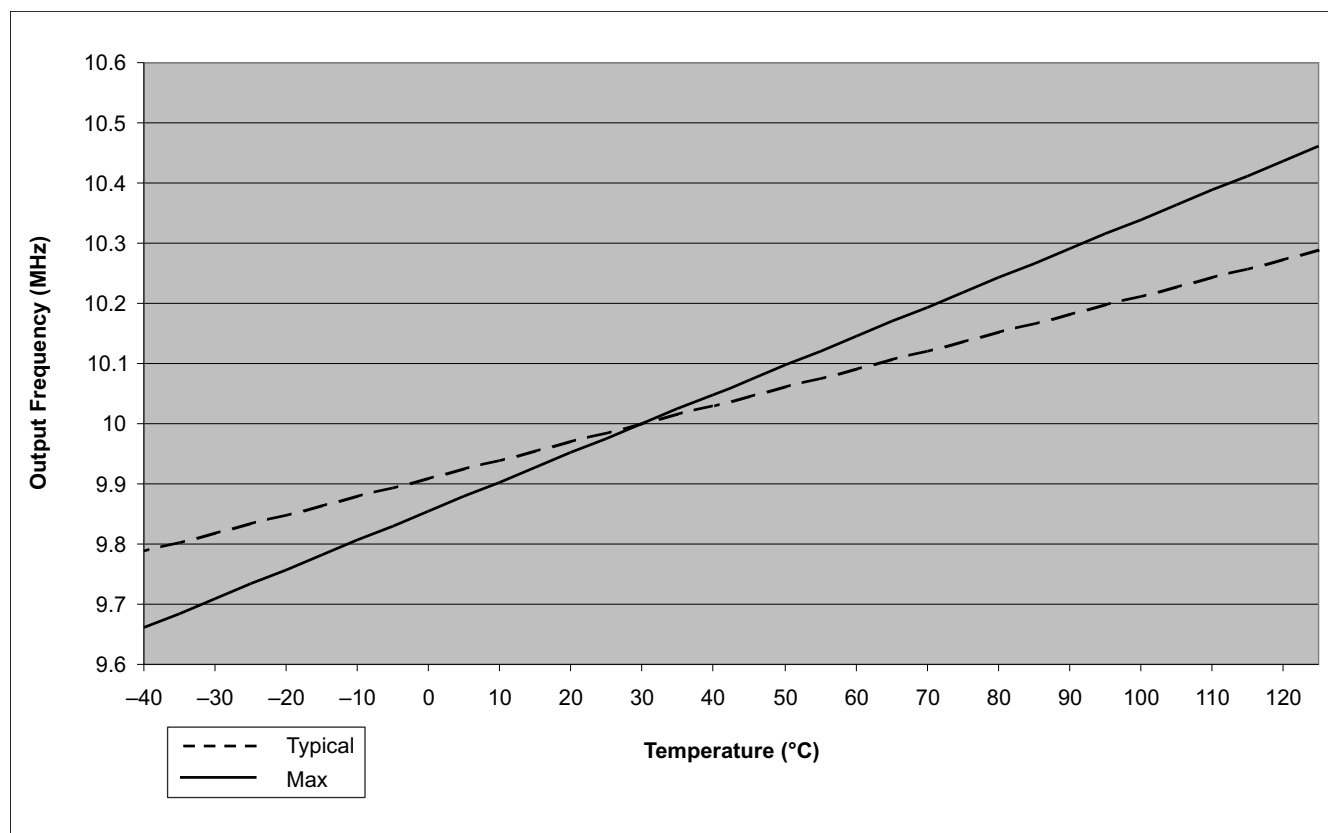

Figure 7-8. Zero-Pin Oscillator Frequency Movement With Temperature
- (1) Oscillator frequency will vary over temperature, see Figure 7-8. To compensate for oscillator temperature drift, see the Oscillator Compensation Guide and C2000Ware. .
- (2) Frequency range ensured only when VREG is enabled,  $\overline{\text{VREGENZ}} = V_{SS}$ .
- (3) Output frequency of the internal oscillators follows the direction of both the temperature gradient and voltage (VDD) gradient. For example: